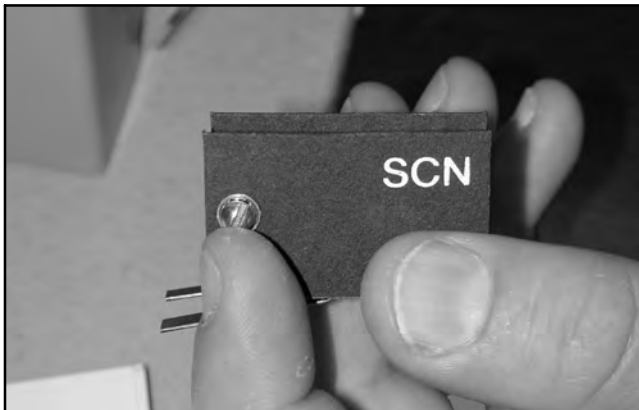

Figure 6-11 Microswitch Insulator with Label
7. Remove the holding screws. Note the microswitch labels on the insulators. See Figure 6-11.